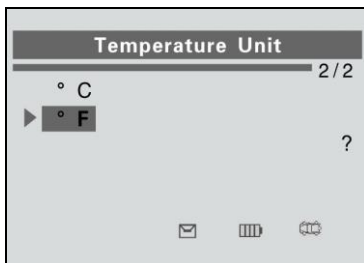

Figure 3.11
- 2) From **Temperature Unit** screen, use the **UP/DOWN SCROLL** button to select the desired unit of temperature. (Figure 3.11)